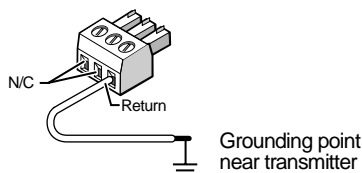

Figure 2-2 — Grounding the transmitter
- Use a 3.5 mm captive screw connector to connect a ground wire between the return pin on the power connector (figure 2-2) and a grounding point near the transmitter, such as a grounded power outlet or an equipment rack.